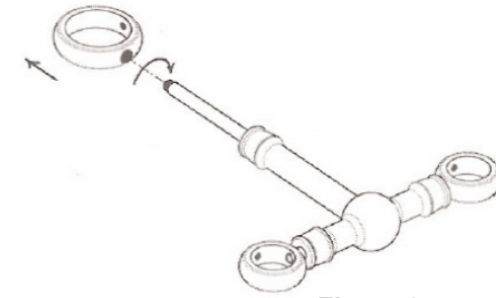

Figure 3a
3. Attach Wall Mount Plate (See Figure 3a & 3b)
1. Unscrew to remove Tub Overflow Stabilizer Ring (See Figure 3a)